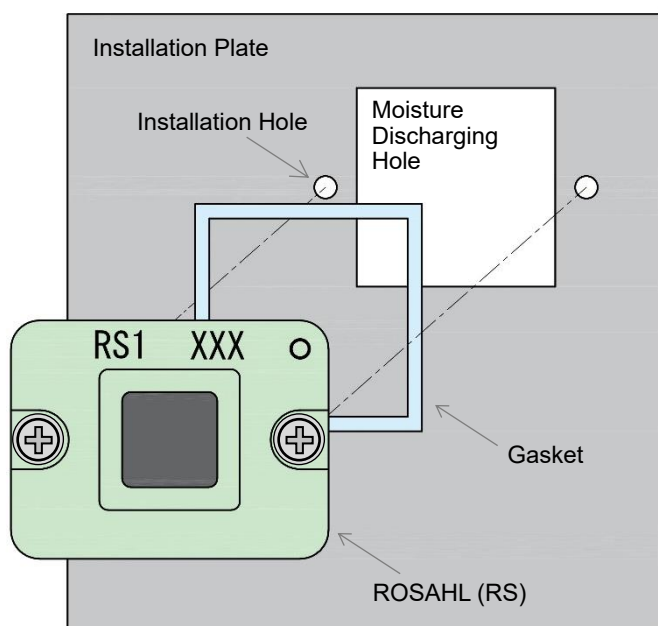

Fig.1 Installation Image
(Refer to the Fig.1~3)
- ^{*5} Refer to the Figure 1~3.